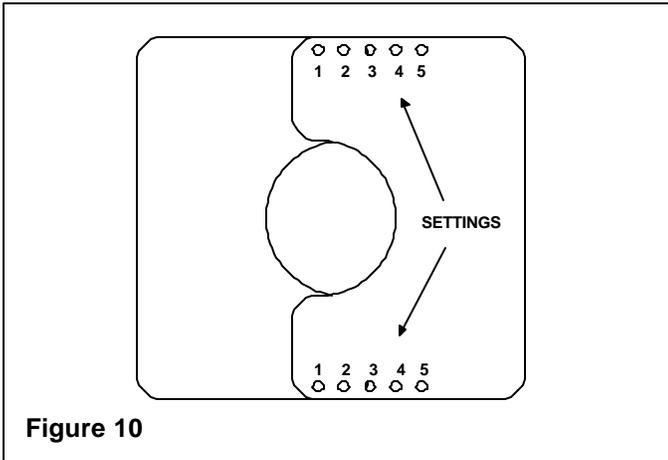

Figure 10
4. Center the Flue Restrictor on vent and secure in place by using two self-tapping screws (see Figure 10).